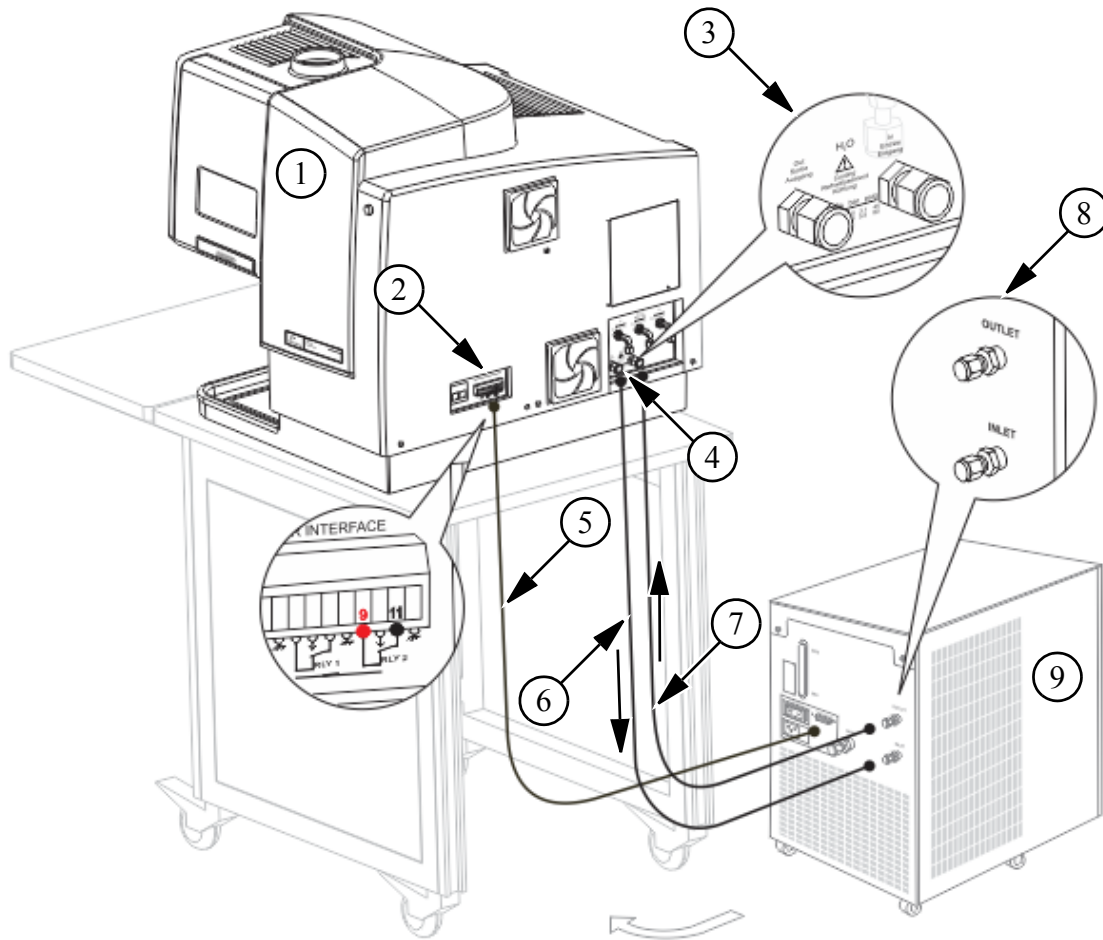

Figure 4-4 Water flow diagram with the chiller
2. Locate the instrument Input coolant lines (Part No. N0770341), which uses 3/8-in Swagelock fittings) and connect to the chiller "OUTLET" fitting. Use a 3/8-in. space collars (Part No. 09920584) at the instrument. The following figure shows the chiller connections. *Figure 4-4 on page 109* shows the water supply connections at the instrument.